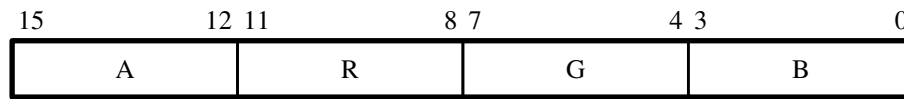

Figure 13. 16-bit RGBA Color Space.
- 16-bit RGBA — This format contains alpha values as well as RGB and uses 4 bits of each color as shown in Figure 13. This mode is defined as 4 bits per symbol and four symbols per beat.